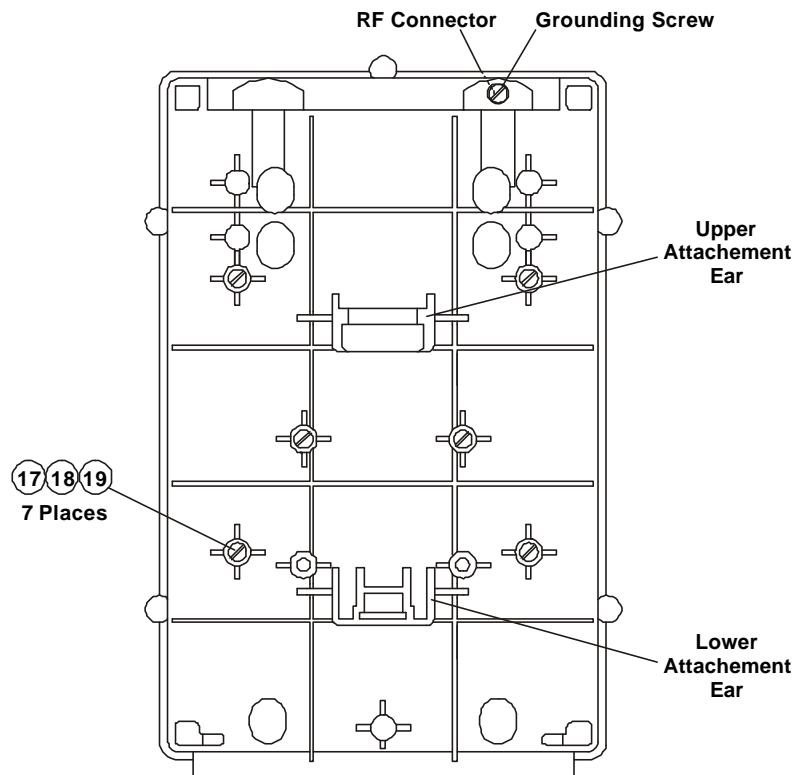

Figure 4-4. Attachment of Reflector
- (1) Skip this step for RPC without external reflector: place the tilt holder (2) on the rear side of the reflector as shown in Figure 4-4 and fasten it to the reflector by means of four screws and shims (17, 18, 19).